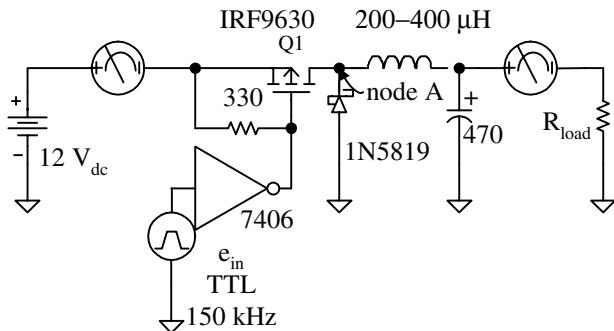

Figure 7-20 Manually adjusted pulse width buck regulator
1. Build the circuit shown in Figure 7-20.